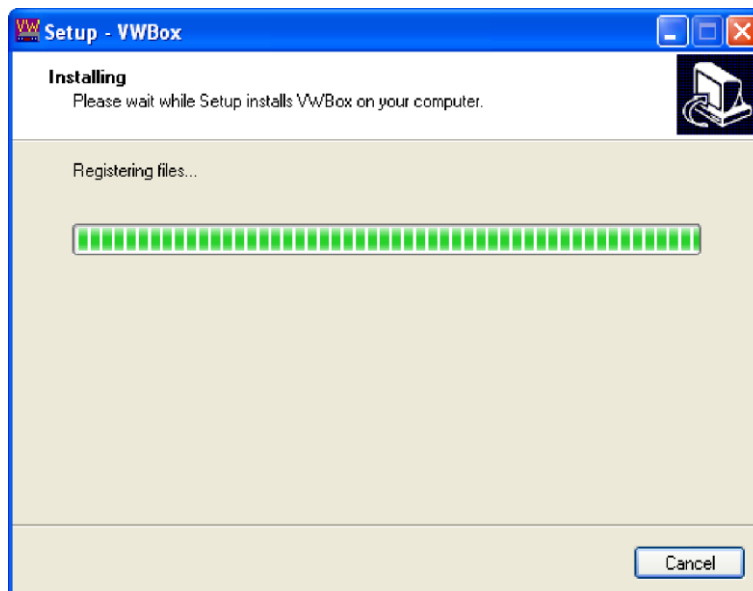

Figure 4-19: SmartOSD Installing
Step 12: The **Installation Progress** dialog will display the progress of the software installation (**Figure 4-19**).